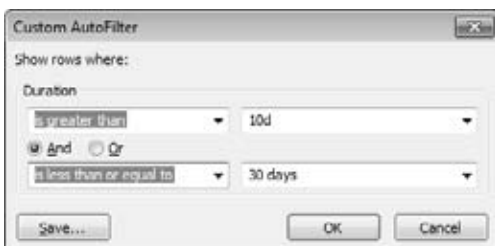

Figure 23-30:
2. In the Custom AutoFilter dialog box, the field is set to the selected column, as shown in Figure 23-30.